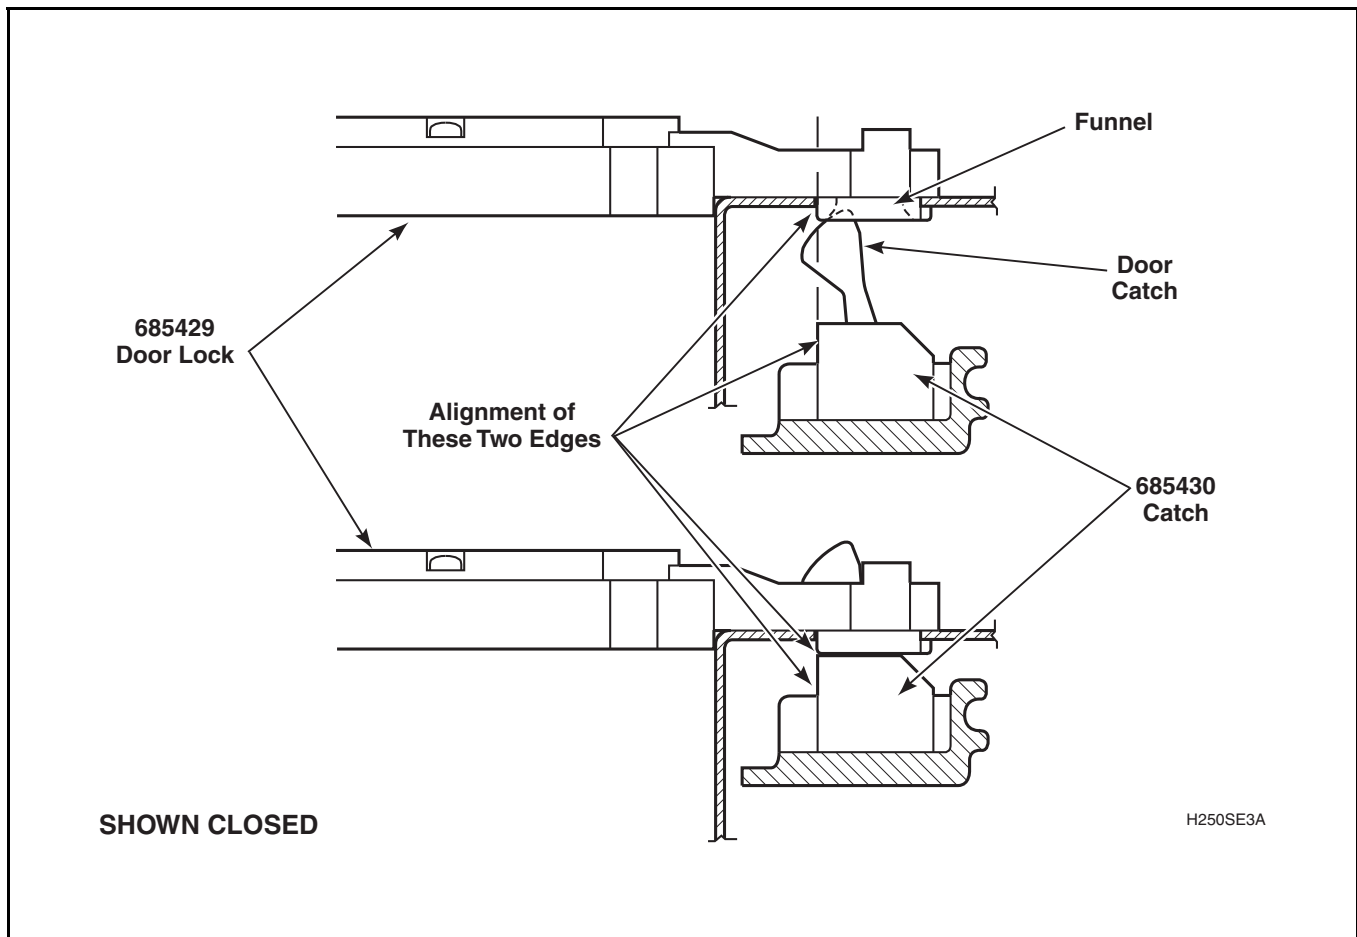

Figure 78
- Adjust door catch so the outside edge is aligned with the edge of the latch. Refer to *Figure 78*.
- Visually check that the door catch properly engages the funnel of the door latch/switch assembly. Refer to *Figure 78*.